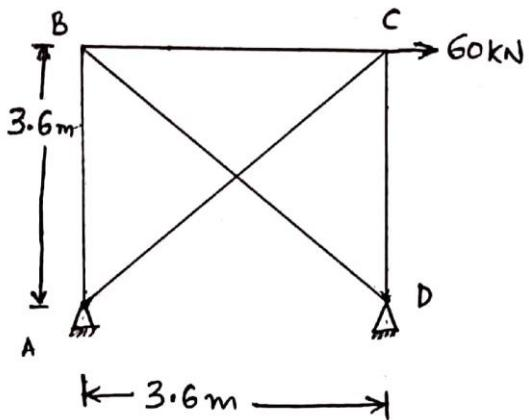

Fig. Q.4
- 5 Determine the forces in the members of the truss as shown in Fig. Q.4. AE is constant for all members.